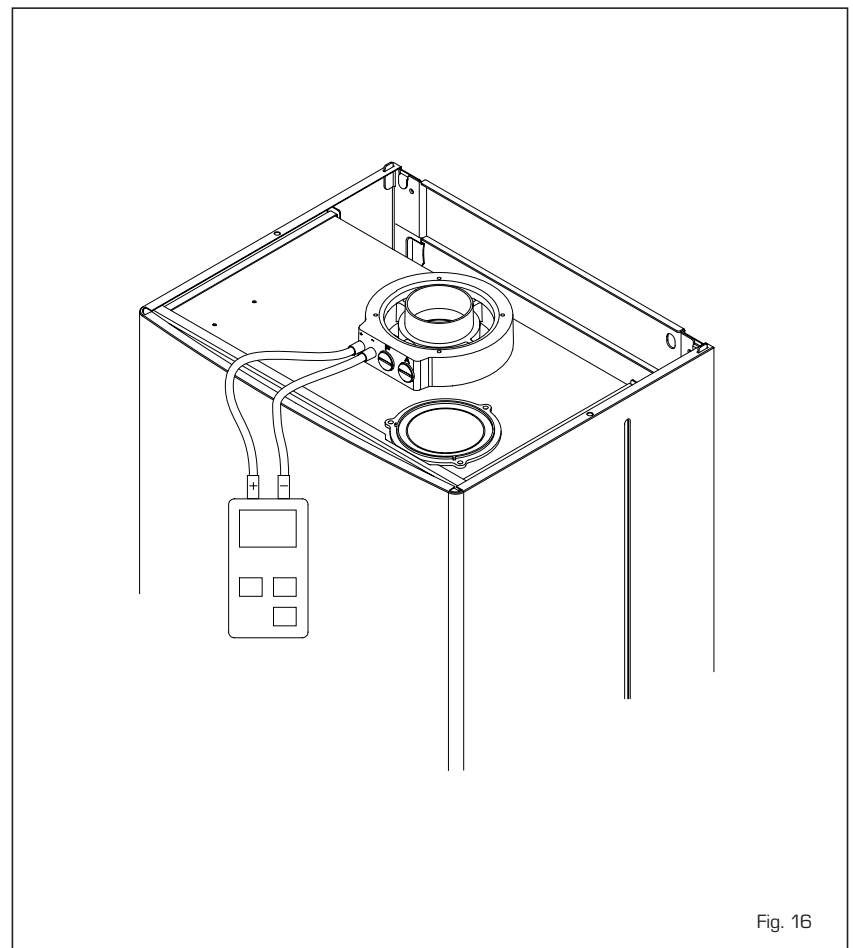

Fig. 16
3.5 "25 - 30 - 35 BF TS" SMOKE PRESSURE SWITCH (fig. 16)
4.6 - 5.6 mm H₂O in model "35 BF TS", is able to guarantee the boiler operation even with air intake and smoke outlet pipes at the maximum limit of the length allowed. The value of the signal to the pressure switch is measured by means of an instrument connected as shown in fig. 16.